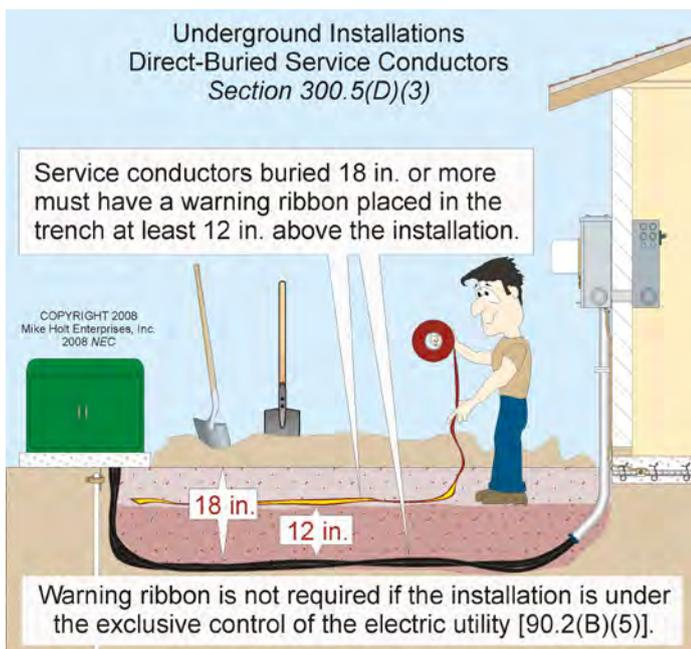

Figure 300-12
(3) **Service Lateral Conductors.** Direct-buried service-lateral conductors that aren't under the exclusive control of the electric utility, and are buried 18 in. or more below grade, must have their location identified by a warning ribbon placed in the trench not less than 1 ft above the underground installation. **Figure 300-12**